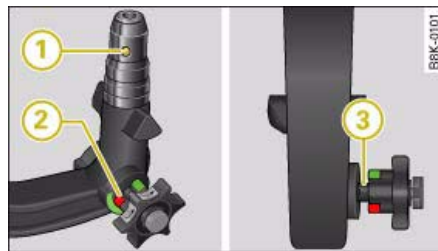

Fig. 238 Removable towing bracket: Ball joint
- Check that the red marking (2) ⇒ fig. 238 on the knob is inside the green zone on the ball joint.
- Check that the locking ball (1) is inside the hole in the shaft section of the ball joint.
- Check that the knob protrudes visibly from the ball joint, so that there is a clear gap (3) between the knob and the ball joint.